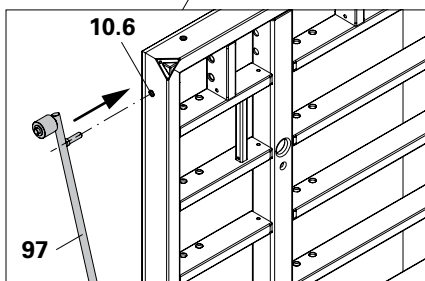

Fig. A3.04a
- are released from the concrete. (Fig. A3.04a)